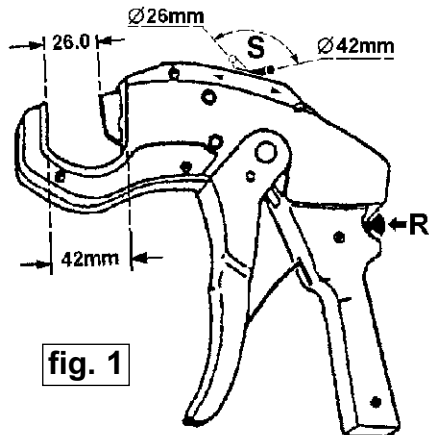

fig. 1
- 3.1.2 To select the 26mm position first retract the blade by pressing the retraction button (See fig.1-R).